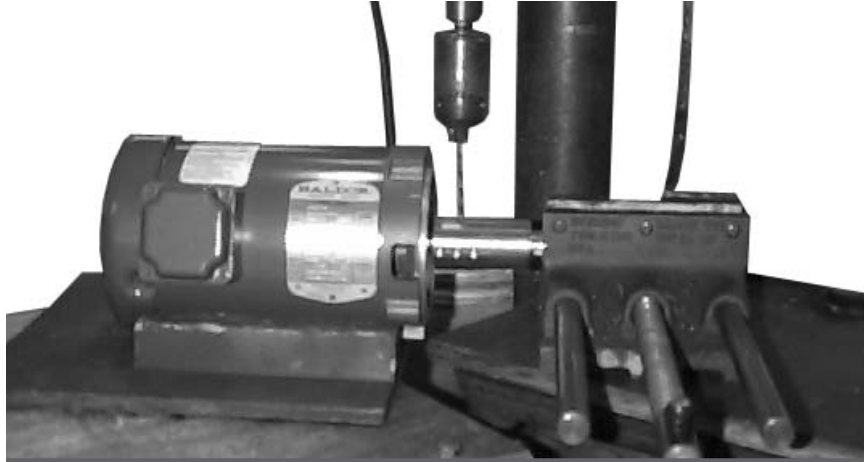

Figure 4 Positioning the stub.
D. Insert #12 drill in stub shaft pilot hole and drill completely through motor shaft and opposite side of stub shaft. See Figure 4.